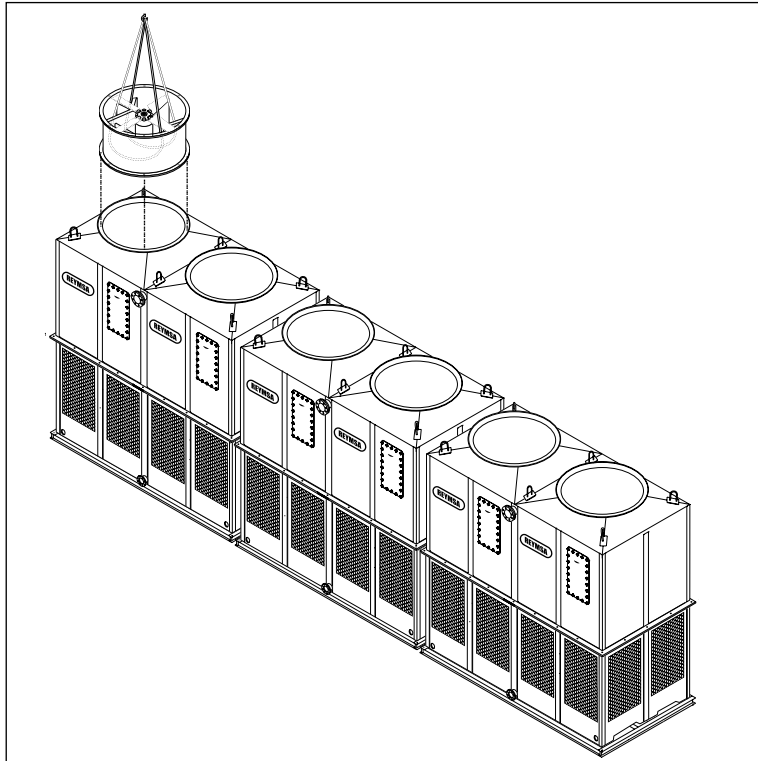

Figure A-72: Fan Duct installation for a Modular Tower (RTM-B-S or RTPM-B-S)
- F. Then cradle/straddle the fan support with the straps (as shown in figure A-72) so you can lift the fan duct with a crane and assemble it.